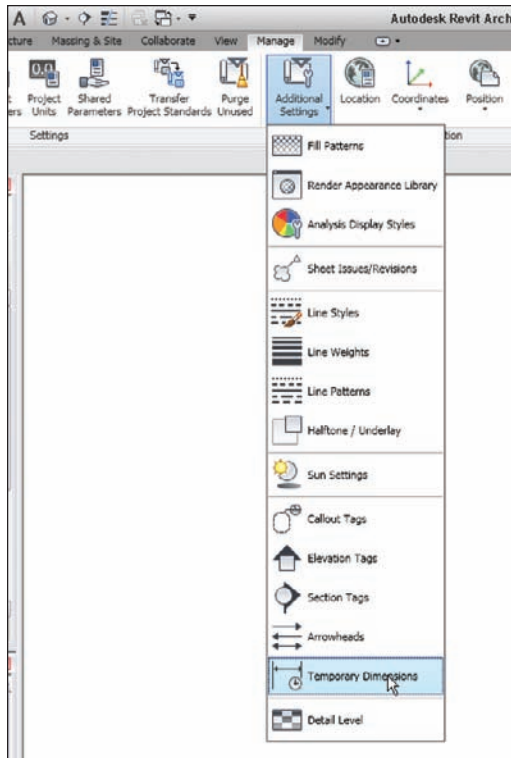

FIGURE 2.25 The Temporary Dimensions function lets you control where Revit measures the temporary dimensions.
1. On the Manage tab, click Additional Settings > Temporary Dimensions, as shown in Figure 2.25.